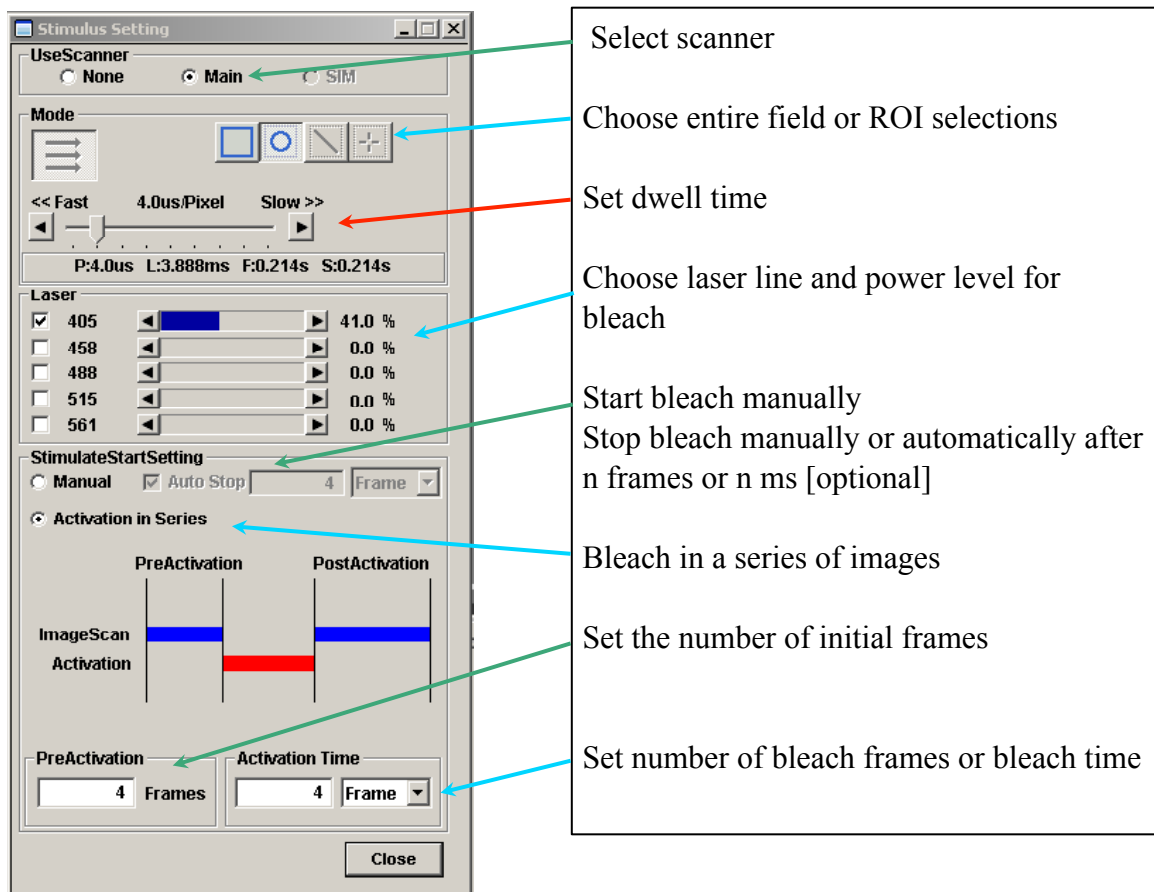

Figure 15. The Stimulus Setting window for photoactivation.
3. Set the Stimulus window settings as shown in Figure 15;